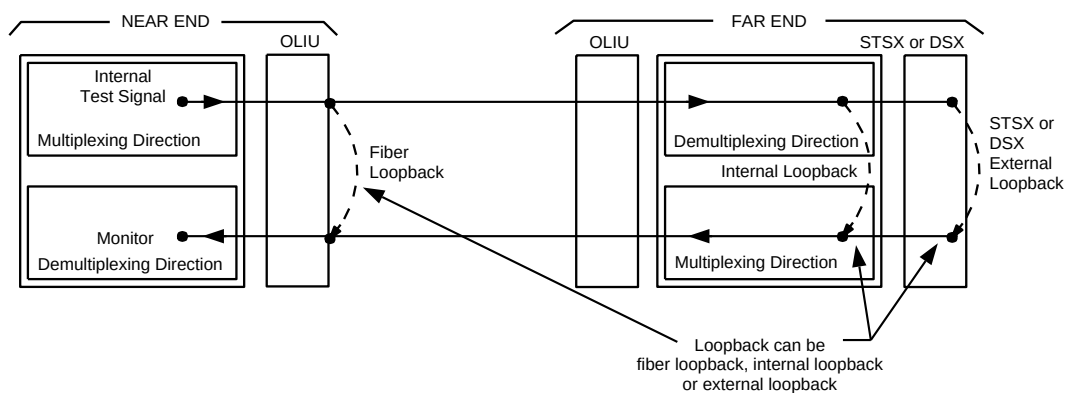

Figure 1. Transmission Test of DS3 Signal in MUX Direction
7. See Figure 1. At the near end DDM-2000, use the following command to perform a test of the DS3 loop in the fiber direction: